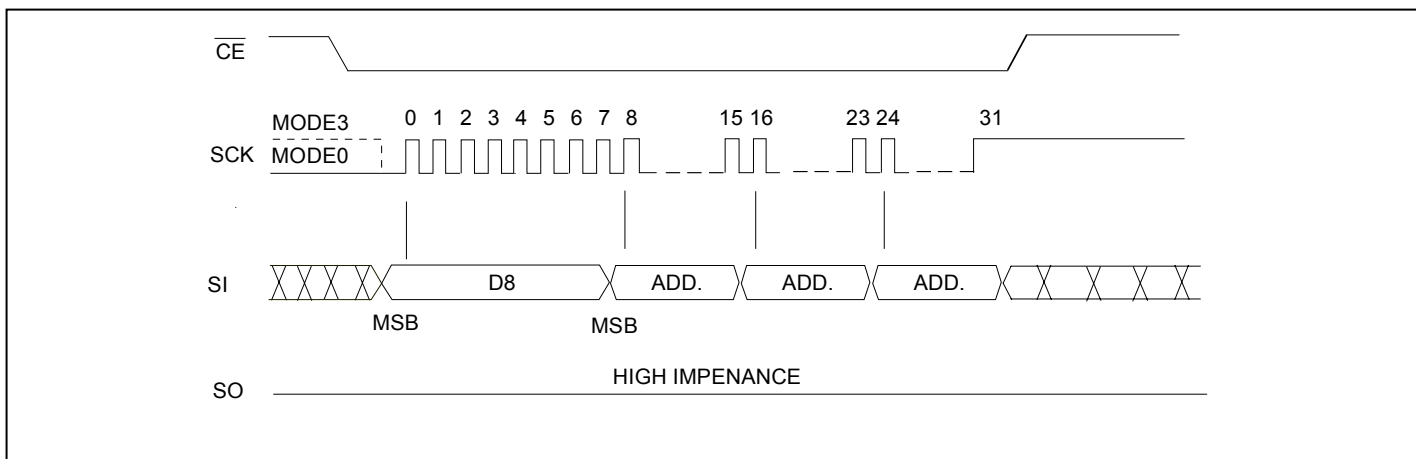

Figure 13: 64K-byte Block Erase Sequence
-A0]. Address bits [AMS-A16] (AMS = Most Significant address) are used to determine the block address (BAX), remaining address bits can be VIL or VIH.  $\overline{CE}$  must be driven high before the instruction is executed. The user may poll the BUSY bit in the Software Status Register or wait TBE for the completion of the internal self-timed Block Erase cycle. See Figure 13 for 64K Byte Block Erase sequence.